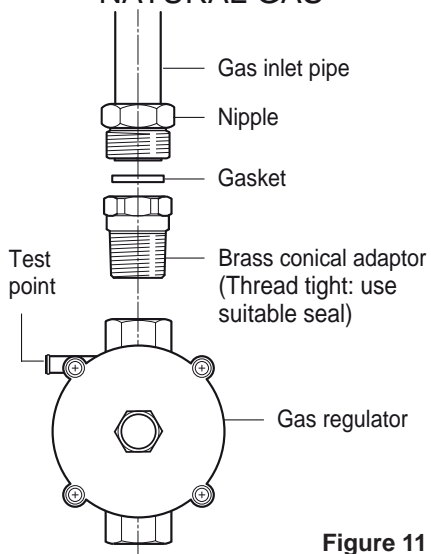

Figure 11
- For Natural Gas models the gas supply is connected to the pressure regulator which is supplied with the appliance (fig. 11). Adjust the regulator to obtain a test point pressure of 1 kPa with the two semi-rapid (SR) burners operating at maximum.